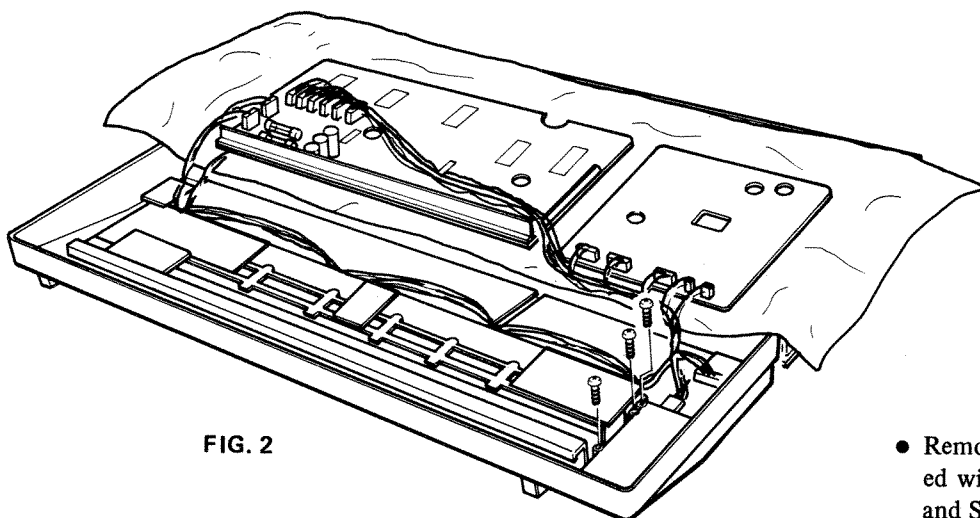

FIG. 2
- Remove eleven screws (each installed with a fiber washer) holding DM and SA boards in place. After the screws are removed the DM and SA boards can be removed as shown in Fig. 2.